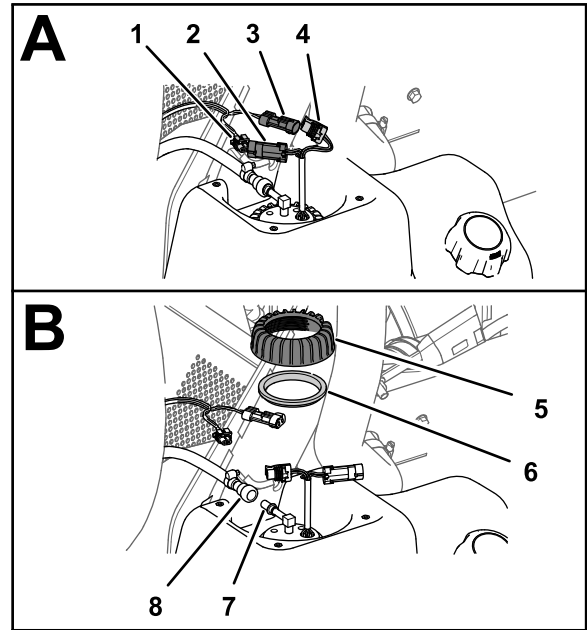

Figure 86
connector of the fuel pump/sending unit (Figure 86).
2. Slide the locking sleeve of the fuel-hose coupling away from the fitting of the fuel pump/sending unit and remove the coupling and hose from the fitting (Figure 86).
3. Rotate the nut for the fuel pump/sending unit counterclockwise and remove the nut and seal (Figure 86)